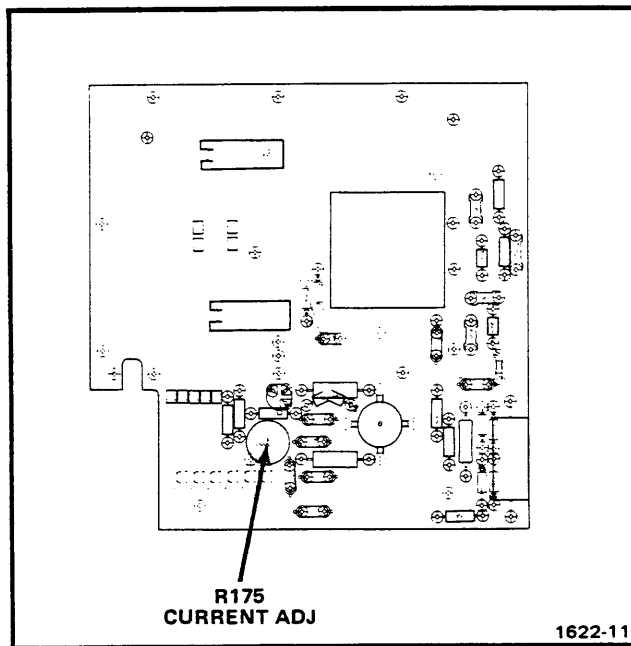
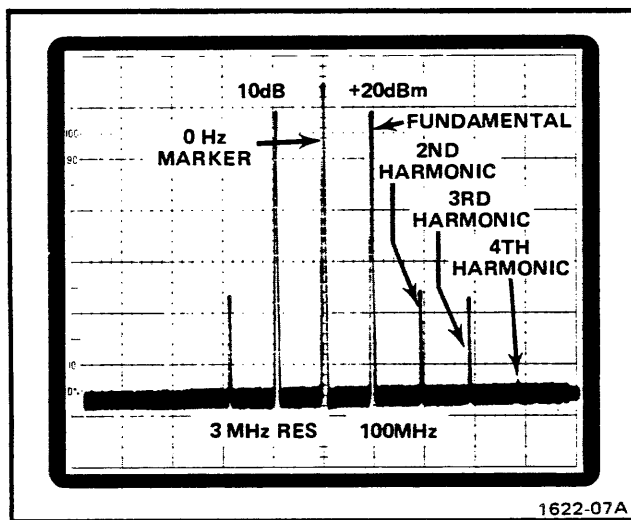

Fig. 3-4. Location of R175 Current Set adjustment.
Fig. 3-5. Display of 100 MHz signal and harmonics.
- c. Position the 0 Hz marker display to the center graticule line with the spectrum analyzer position control. See Fig. 3-5 for reference.
- d. Position the fundamental to the top graticule line with the spectrum analyzer vertical position control. See Fig. 3-5 for reference.
- e. Slowly adjust the SG 503 OUTPUT AMPLITUDE control over the 0.5 volt to 5.5 volt range in both directions and check for at least 3.5 division vertical separation between the top of the fundamental and the top of the second harmonic display (35 decibels down). See Fig. 3-5 for harmonic reference.
- f. Adjust—Current Adj, R175, for at least 3.5 division vertical separation between the top of the fundamental and the top of the second harmonic display. Repeat part e of this step. See Fig. 3-4 for adjustment location, and Fig. 3-5 for reference.
c. Position the fundamental to the top graticule line with the spectrum analyzer vertical position control. See Fig. 3-5 for reference.